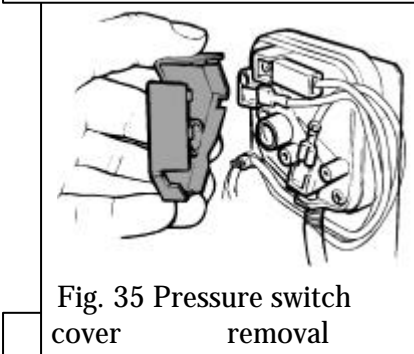

Fig. 35 Pressure switch cover removal
**13.10.4** Remove the pressure switch cover (figure 35). Disconnect the three leads (Yellow, orange & white) from the air pressure switch.
**13.11.3** Remove the pressure switch cover (figure 35). Disconnect the three leads (Yellow, orange & white) from the air pressure switch.